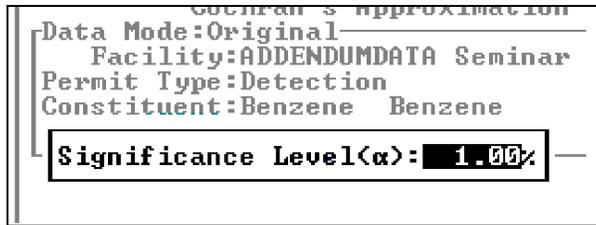

Figure 5-141. The Significance Level dialog.
4. Press <T> to execute the Ttest option of the TwoSample menu. The Data Mode prompt appears on your screen as shown in Figure 5-140. Use the up and down arrow keys to highlight the desired scale (i.e., Original or Log Transform) and press <Enter>. The Significance Level dialog appears on your screen (Figure 5-141).